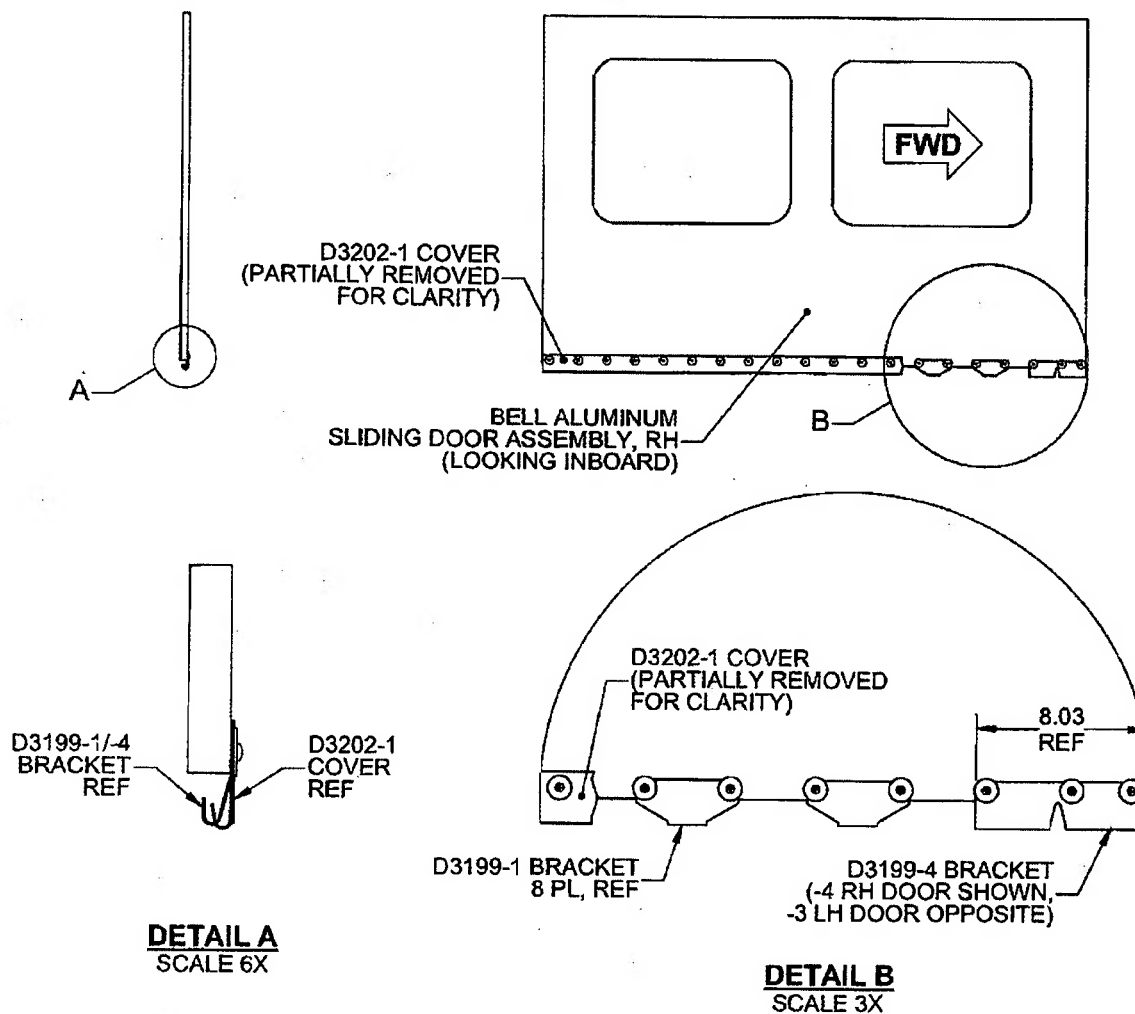

FIGURE 1: D3199-3/-4 BRACKET INSTALLATION ON ALUMINUM DOORS
- 3) Install the D3199-3/-4 or D3675-5/-6 bracket as applicable in lieu of the removed -1 bracket. Refer to Figure 1 Sheet 2 (aluminum doors) or Figure 2 Sheet 3 (composite doors).
Refer to Figure 1 Sheet 2 (aluminum doors) or Figure 2 Sheet 3 (composite doors).